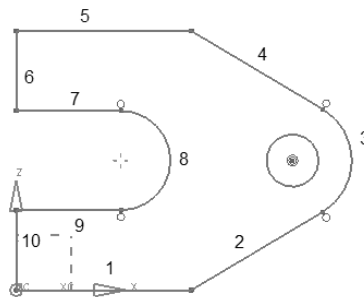

Figure 3-56 The sequence to be followed for drawing the sketch
- By default, the **Profile** button is chosen in the **Sketch Tools** toolbar. Draw the outer profile of the sketch, refer to Figure 3-56. You can draw the first line with exact dimensions and then draw the remaining sketched entities with dimension values close to the required dimension values. Note that the start point of the line 1 is at the origin.
- Next, choose the **Circle** button from the **Sketch Tools** toolbar. Move the cursor over the arc that is numbered 3 in Figure 3-56; the center point of the arc is highlighted.
- After the center point gets highlighted, move the cursor over it and press the left mouse button to specify the center point of the circle. Now, move the cursor away from the center point and specify the diameter of the circle by clicking the left mouse button or by entering the diameter value in the diameter input box. The circle is created, refer to Figure 3-56.